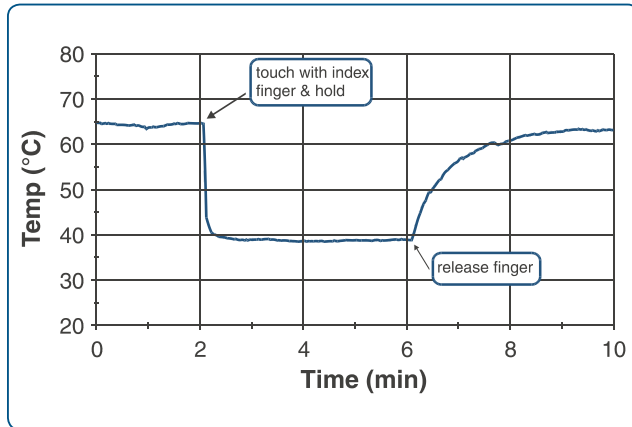

Figure 3 — MKS Heater “Heat-Sink” Graph
- (1) Microprocessor-based control of thermocouple offers an extremely tight temperature control band.
- (2) No-arc relay circuit eliminates arcing of the power relays extending lifetime and improving reliability of the heater. Relay contact life exceeds 4 million cycles.
- (3) New optimized design of the heat zones within the valve heater improve temperature uniformity.
- (4) Improved design of thermal fuse configuration eliminates nuisance failures caused by transient thermal spikes.
- (5) When you touch the outside insulation, your finger acts as a heat sink. The insulation is so effective that the outside temperature of the heater where you are touching falls to 39°C. So the heaters are safe to touch. When you remove your finger, the silicone goes back to 65°C. See Figure 3.